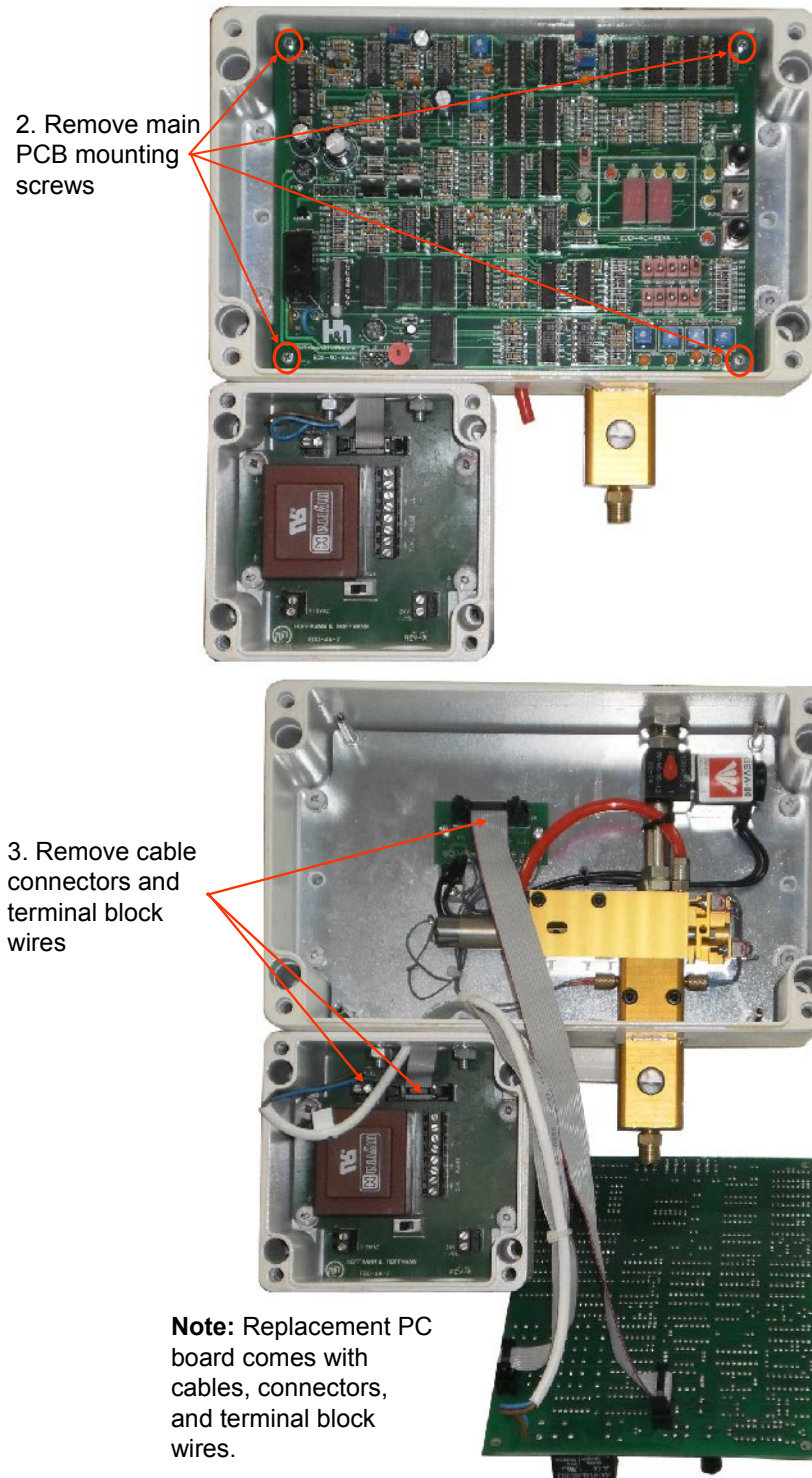

Figure 13: Dripmaster PC board replacement
1. Remove both covers to gain access to the PC boards, and then follow directions shown in Figure 13 below.